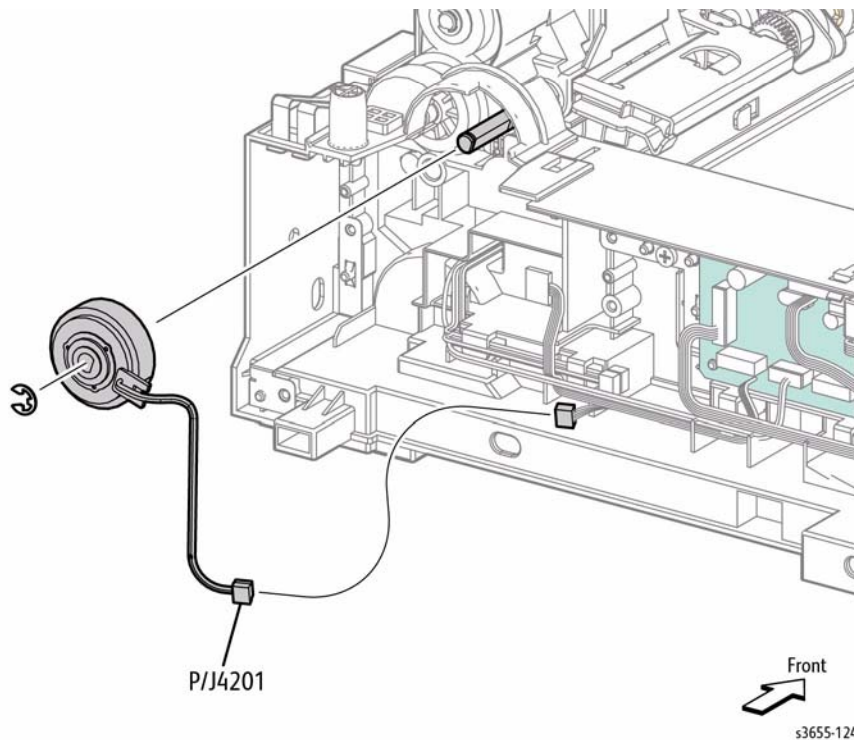

Figure 1 Remove the Feed Clutch
5. Refer to Figure 1 to locate and disconnect the Feed Clutch.